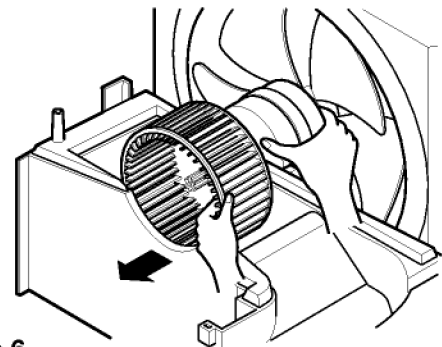

Figure 6
8. Re-install the components by referring to the removed procedure, above. (See figure 6)